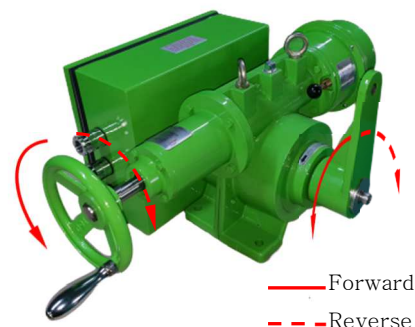

Fig.7 : Direction of manual operation shaft
- As fig.7, output shaft is required to rotate into line-arrow direction (forward direction or opening direction), make rotation into lined-arrow direction (counter-clock direction) after pushing in manual handle as figure.
- As fig.7, output shaft is required to rotate into dotted line -arrow direction (reverse direction or closing direction), make rotation into dotted line-arrow direction (clock direction) after pushing in manual handle as figure